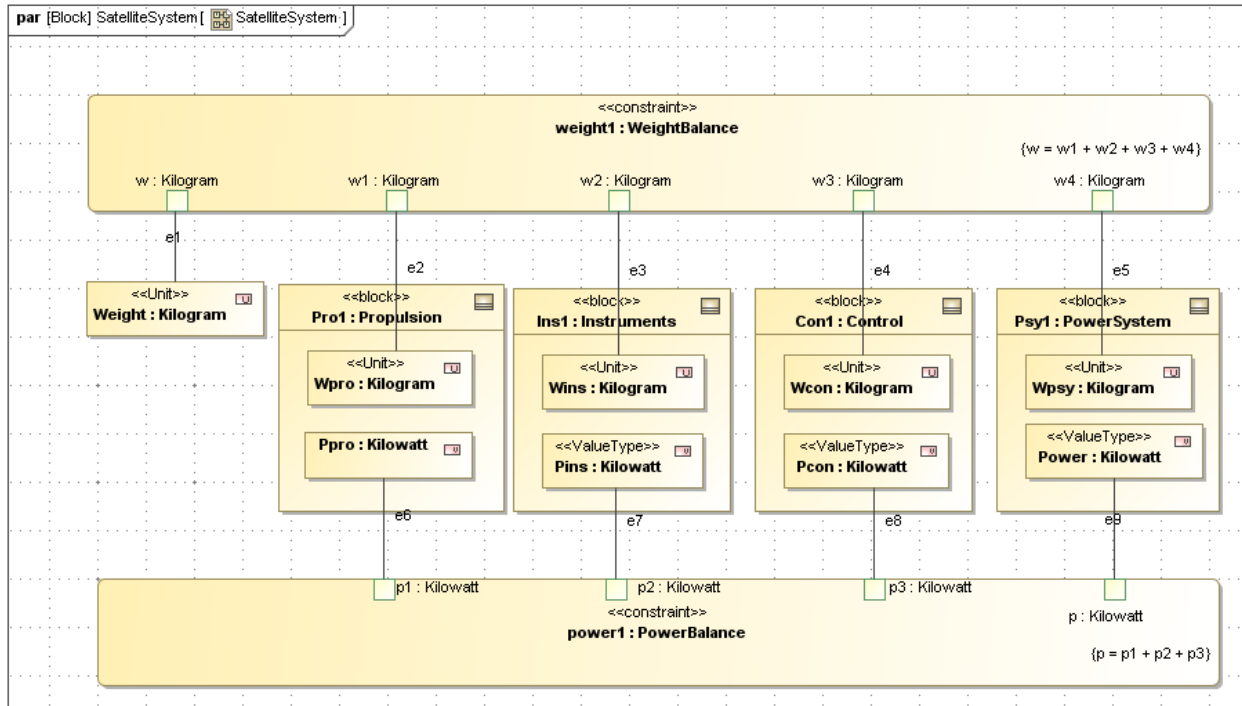

Figure 3.5 SysML Parametrics Diagram
- i. Use the Edit Compartment and Presentation Options commands to display the internal structure as shown in Figure 3.5
- iv. Rearrange port icons inside **weight1** as shown in Figure 3.5.
- f. Add connectors (central toolbar or floating toolbar) from the Value or Part Property attributes to the Constraint Property parameters as shown in Figure 3.5.